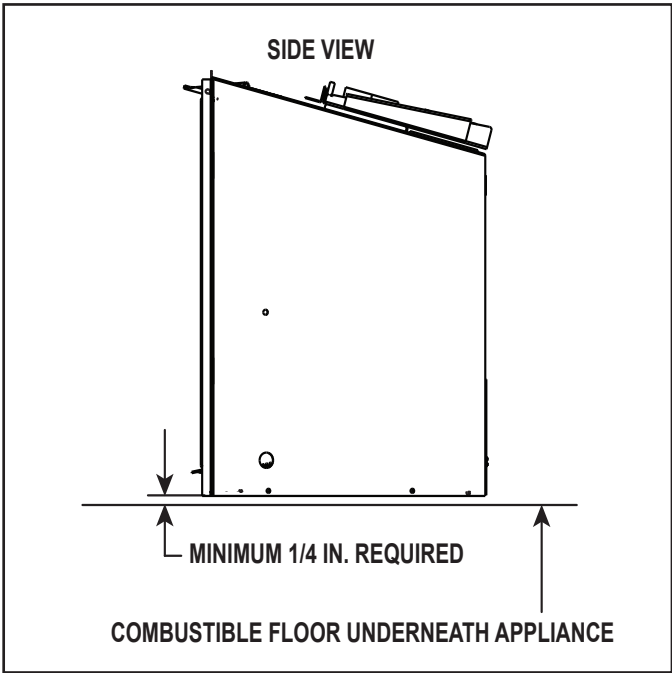

Figure 8.6 Solid Fuel Floor Clearance
- A minimum 1/4 inch gap from the bottom of the appliance to the metal floor of the solid fuel firebox is **REQUIRED**. See side view in Figure 8.6.
- Combustible flooring underneath the appliance is acceptable with a 1/4 inch gap. See Figure 8.6.